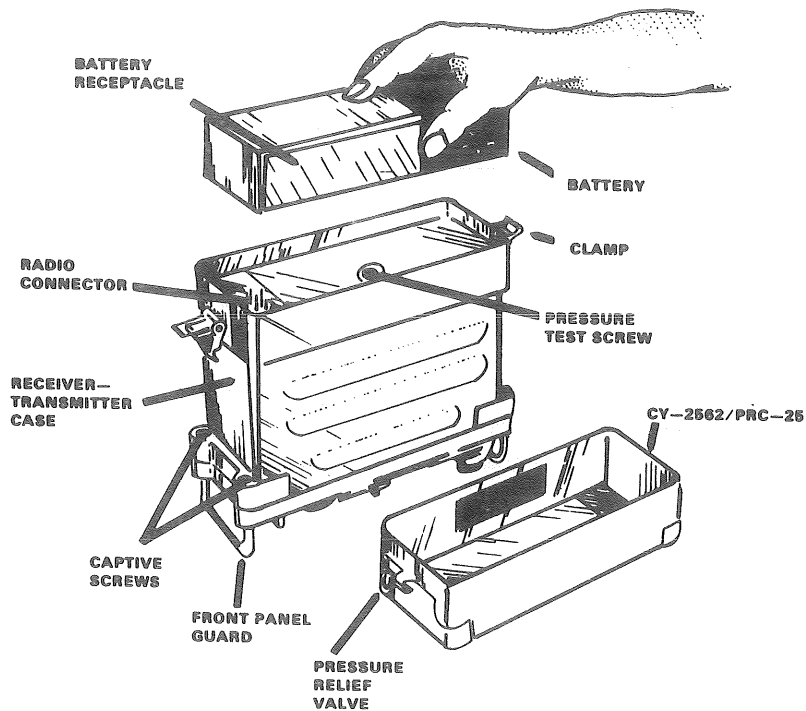

Figure 1. Installing battery in receiver-transmitter.
1. Insert battery. (Refer to fig 1 and TM 11-5820-667-12, para 2-4.)